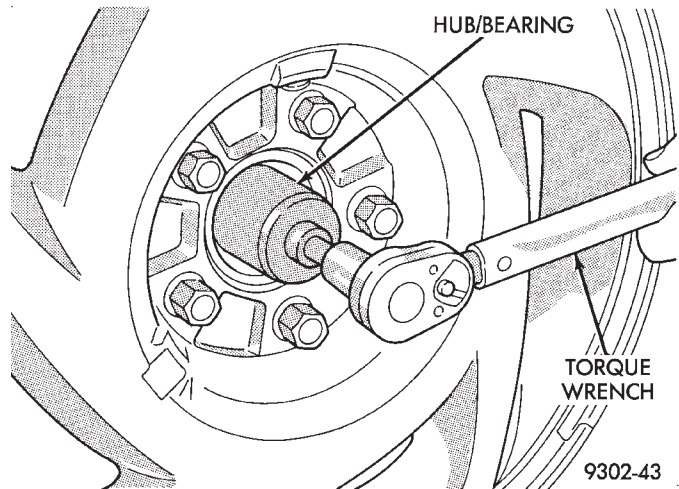

Fig. 21 Tighten Hub And Bearing Retaining Nut
(14) Apply the vehicle's brakes to keep vehicle from moving. Tighten the **NEW** stub shaft to hub and bearing assembly retaining nut to 163 N·m (120 ft. lbs.) (Fig. 21).